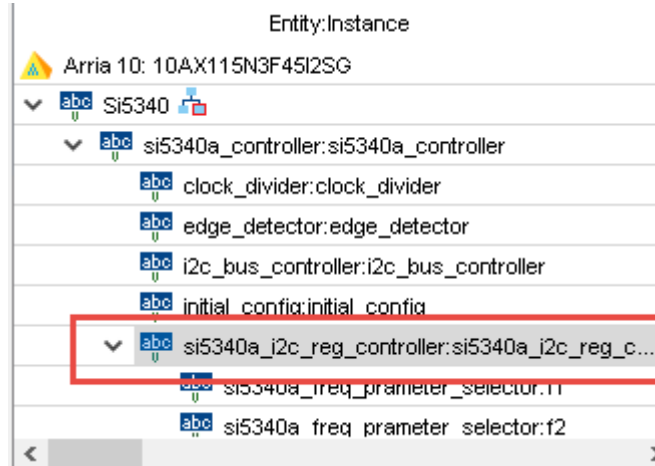
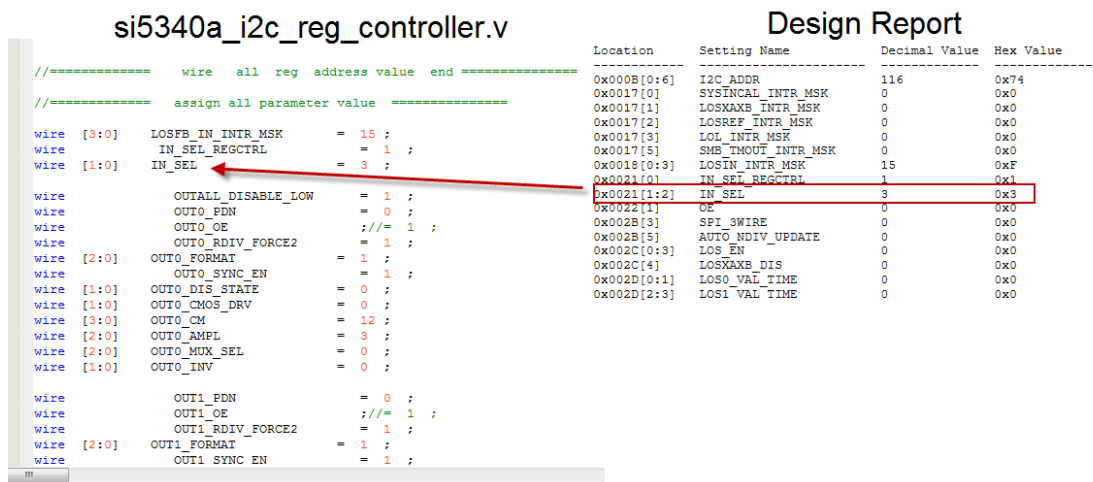

Figure 5-8 Sub-Module file “si5340a_i2c_reg_controller.v”
Figure 5-9 Modify Si5340 Control IP Base on Design Report
- Open Si5340 control IP sub-module “si5340a_i2c_reg_controller.v “ as shown in **Figure 5-8**, refer Design Report parameter to modify sub-module corresponding register value (See **Figure 5-9**).